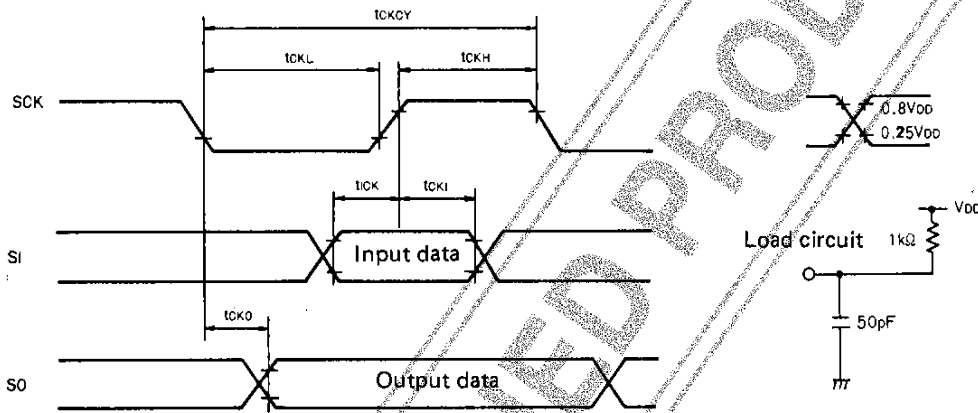

Fig. 5 Serial Input/Output Timing
| Output Clock Cycle Time | t_{CKCY} (2) | SCK: ($T_{CYC} = 4 \times$ System clock period), Fig. 5 | | $64 \times T_{CYC}$ | | μs |
| Input Clock "L"-Level Pulse Width | t_{CKL} (1) | SCK: Fig. 5 | 1.0 | | | μs |
| Output Clock "L"-Level Pulse Width | t_{CKL} (2) | SCK: Fig. 5 | | $32 \times T_{CYC}$ | | μs |
| Input Clock "H"-Level Pulse Width | $t_{CKH} (1)$ | \overline{SCK} : Fig. 5 | 1.0 | | | μs |
| Output Clock "H"-Level Pulse Width | $t_{CKH} (2)$ | \overline{SCK} : Fig. 5 | $32 \times T_{CYC}$ | | | μs |
| Serial Input Data Setup Time | $t_{I\overline{CK}}$ | SI: Specified for \uparrow of \overline{SCK} , Fig. 5 | 0.5 | | | μs |
| Serial Input Data Hold Time | t_{CKI} | SI: Specified for \uparrow of \overline{SCK} , Fig. 5 | 0.5 | | | μs |
| Serial Output Output Delay Time | t_{CKO} | SO: Specified for \downarrow of \overline{SCK} , Nch OD only: External 1 kohm, external 50 pF, Fig. 5 | | | 0.5 | μs |
The load conditions are the same as in Fig. 5.